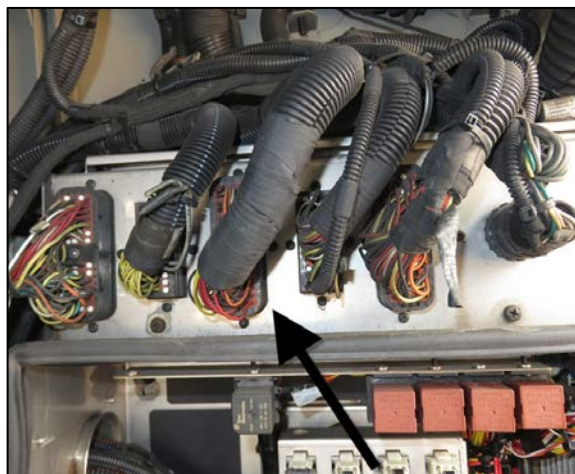

Figure 25
44. Locate the connector C21 on the top the rear junction box (Figure 25).